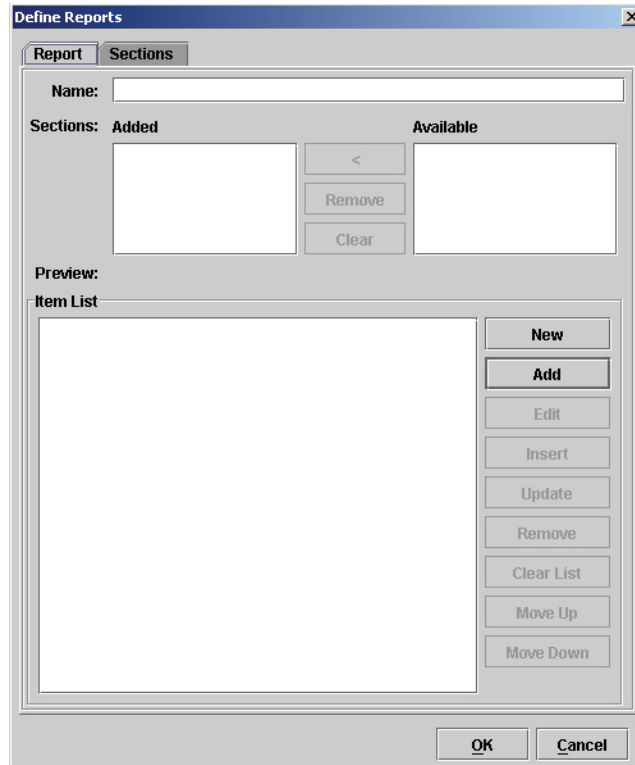

Figure 214 The Define Reports Dialog Box
1. Select **Edit ► Define Reports**. The Define Reports dialog box opens with the Report tab active (Figure 214). Two tabs are available, the Report and Sections tabs.